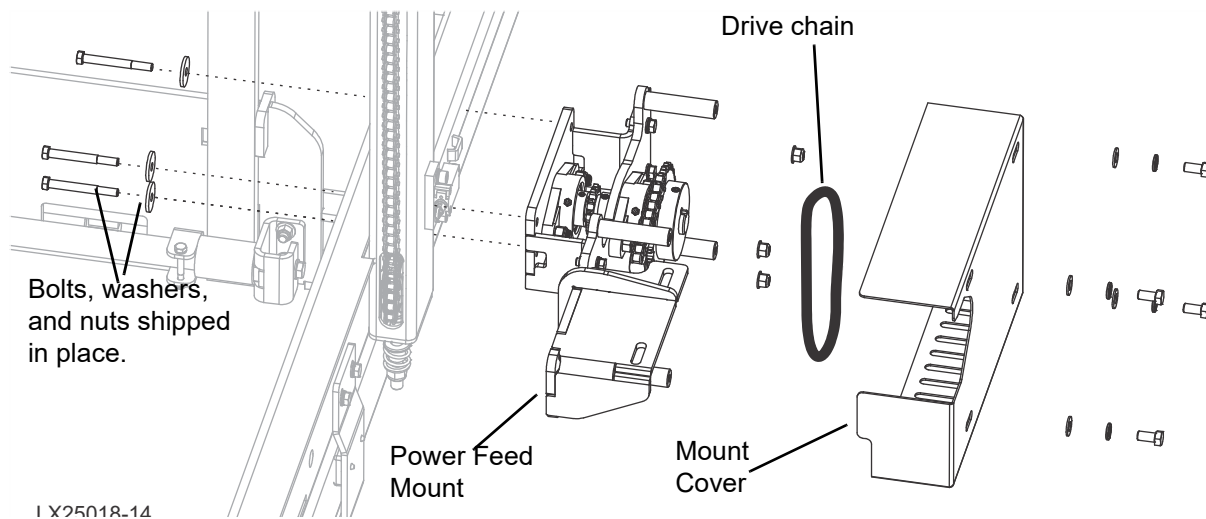

FIG. 2-16
3. Assemble the Power Feed mount (without cover) as shown in Fig 2-16.
See Figure 2-16. T
9. Install the Mount Cover. (See Fig. 2-16.)